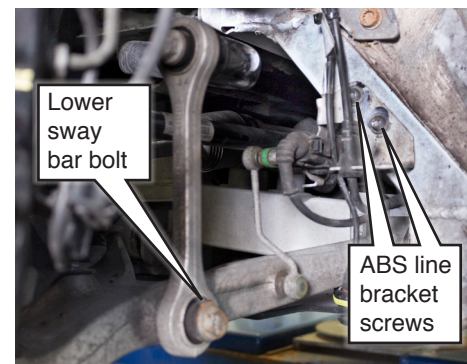

fig. 3
- Remove the existing ABS line bracket screws. Attach the upper bracket (A or B) to the vehicle with the existing hardware. (Fig. 3). See chart for torque specifications.